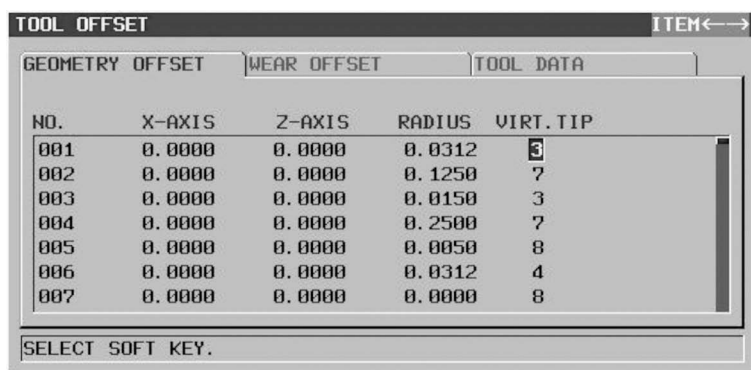

Figure 7-6 GEOMETRY OFFSET Display
The GEOMETRY OFFSET tab (Figure 7-6) includes the X and Z measured values, the tool tip nose RADIUS, and VIRT.TIP (virtual tip) or Tool Tip Orientation. For simulation only, no data entry is needed for the X and Z values; however, they must be measured before automatic operation.
2. Use the arrow keys to move the cursor over the desired data entry point or tab. The RADIUS must be entered to match the tool nose exactly (Figure 7-6). This information should be available from the insert box or from catalog information.